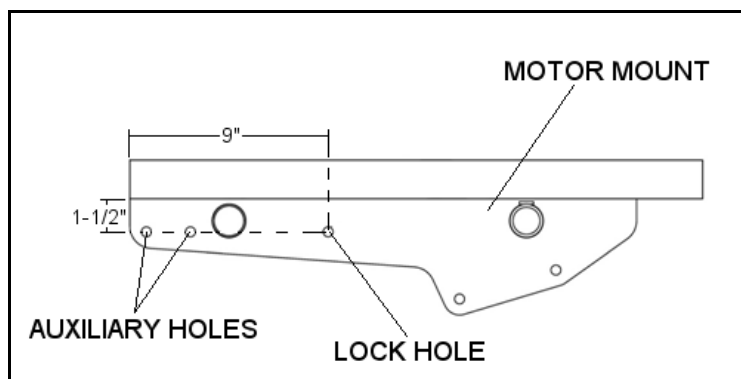
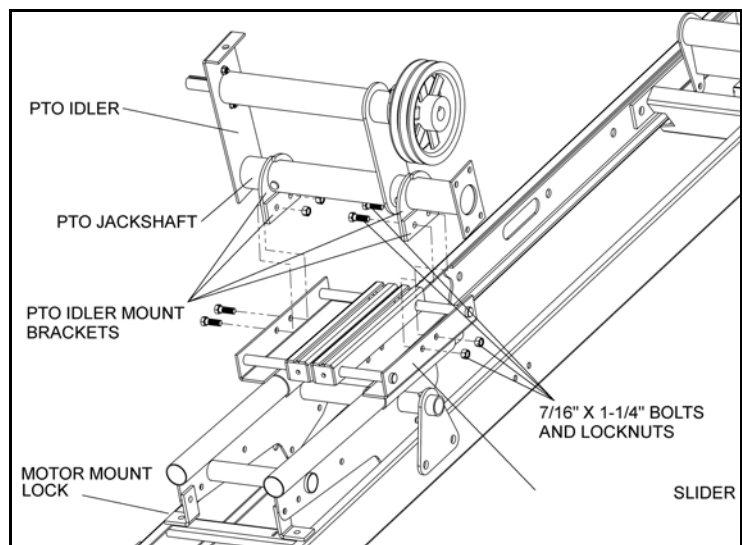

Figure 3.40
Figure 3.42
2. To reinforce motor mount, attach one motor mount lock to the inside of each of the motor mount side plates through the lock hole shown in Figure 3.40 with one 7/16" x 1" bolt and locknut. Motor mount lock shown in Figure 3.42.
4. Attach 2 PTO idler mount brackets to PTO jackshaft. Secure PTO idler mount brackets to inside edges of motor mount slider each side of motor mount slider with four 7/16" x 1-1/4" bolts and locknuts (see Figure 3.42).
Important: On either side of motor mount slider, the PTO idler mount brackets must be arranged opposite of each other as shown in Figure 3.42. This is necessary to ensure a complete closure around the PTO jackshaft.